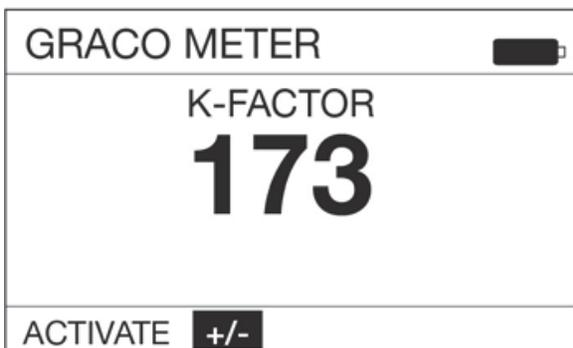

**FIG. 18**
9. After selecting END the following screen (FIG. 18) displays.